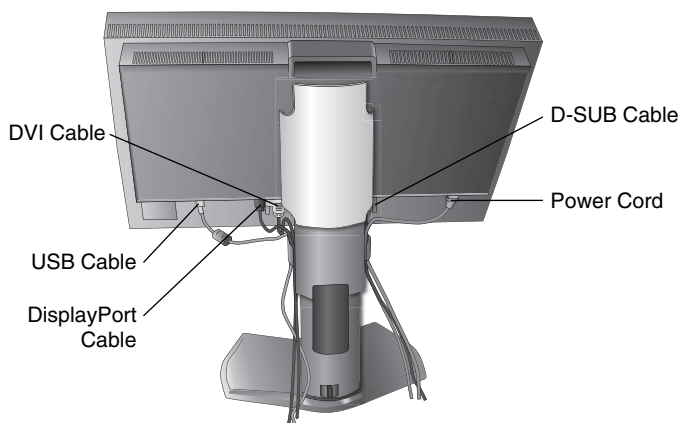
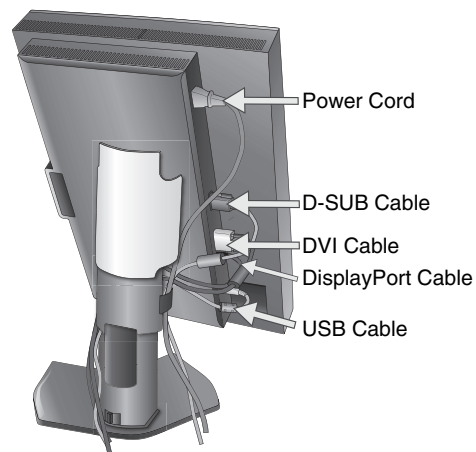

**Figure C.1**
**Figure C.1a**
- Connect all cables to the appropriate connectors (**Figure C.1**). When using the USB cable, connect the B type connector to the USB upstream port on the right back side of the monitor and the A type connector to the downstream port on the computer (**Figure C.1a**). If using the cord from a USB device, plug into one of the downstream ports of the monitor.